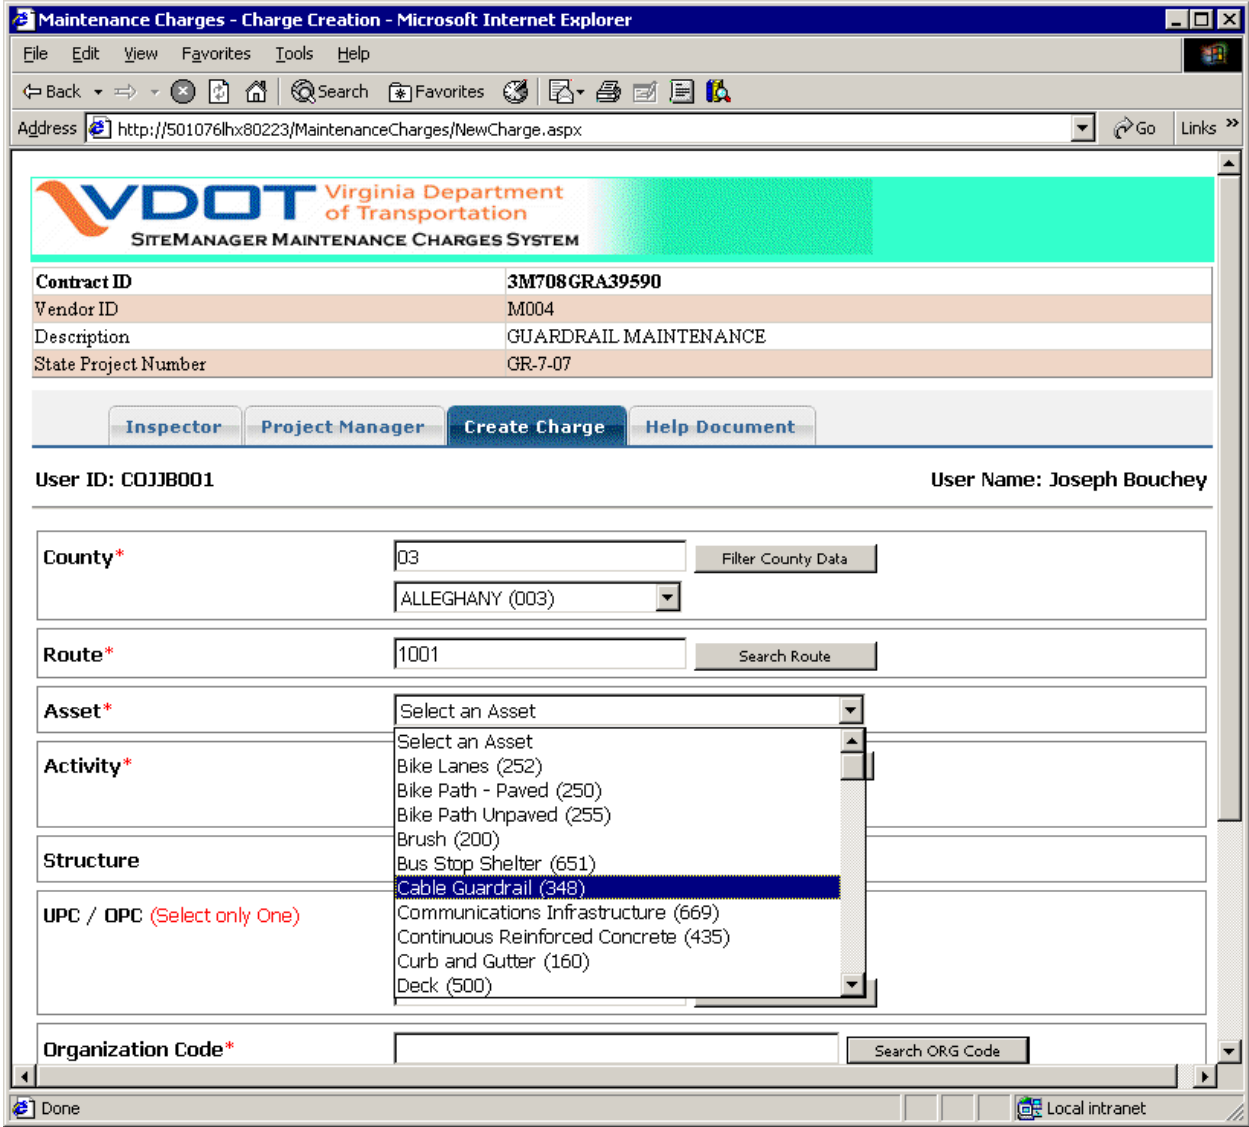

Figure 23
Step 4: Select the Asset from the Asset Dropdown. Once the Asset is selected, activities associated with the Asset are automatically populated. (Figure 23)